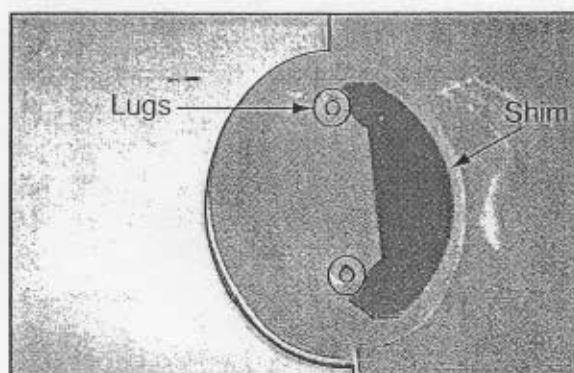
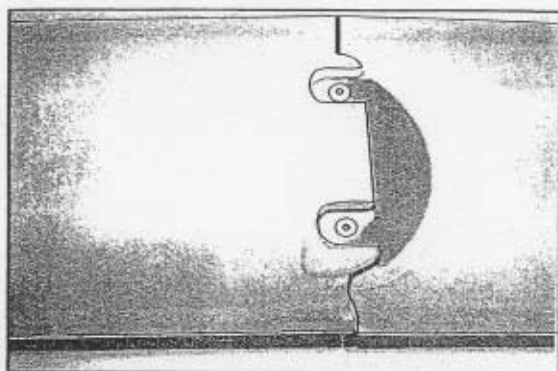
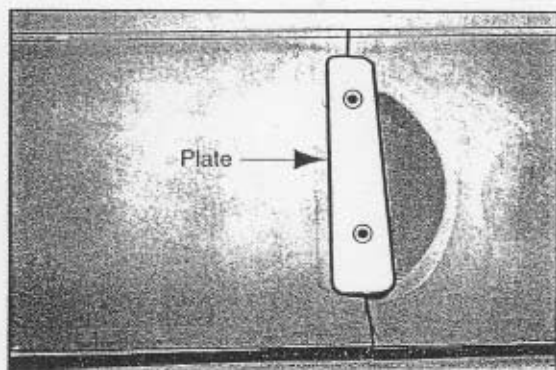
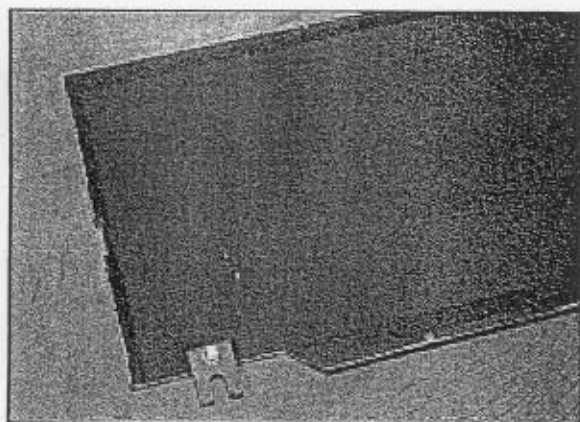

Figure 10e
Figure 10f
Figure 10g
Figure 10h
D. Place the left upper panel face down and position shim on lugs. See Figure 10e. Place right upper panel on top of shim. See Figure 10f. Using the plate and bolts provided, secure the upper panels together. See Figure 10g. Attach the top clip to each side. See Figure 10h.